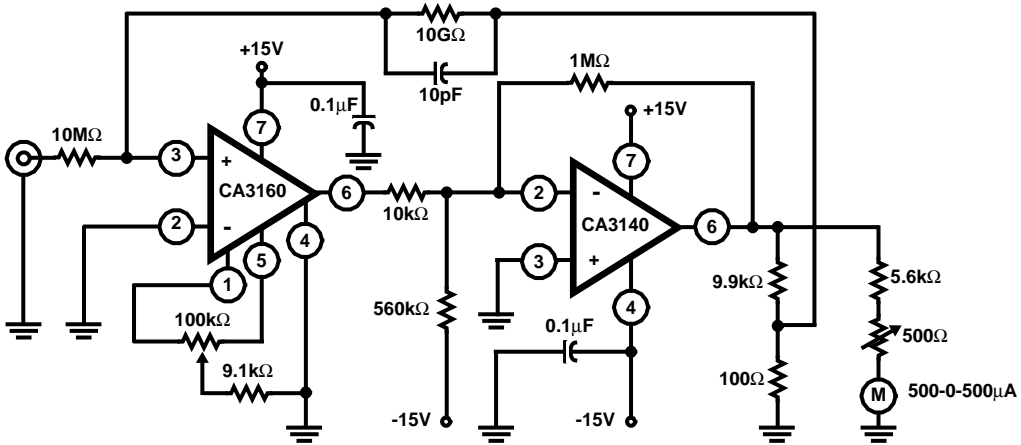

FIGURE 12. CURRENT-TO-VOLTAGE CONVERTER TO PROVIDE A PICOAMMETER WITH  $\pm 3\text{pA}$  FULL SCALE DEFLECTION
Figure 12 shows a single supply sample-and-hold system using a CA3160 to provide a high input impedance and an input voltage range of 0V to 10V. The output from the input buffer integrator network is coupled to a CA3080A. The CA3080A functions as a strobeable current source for the CA3140 output integrator and storage capacitor. The CA3140 was chosen because of its low output impedance and constant gain-bandwidth product. Pulse "droop" during the hold interval can be reduced to zero by adjusting the 100kΩ bias-voltage potentiometer on the positive input of the CA3140. This zero adjustment sets the CA3080A output voltage at its zero current position. In this sample-and-hold circuit it is essential that the amplifier bias current be reduced to zero to minimize output signal current during the hold mode. Even with 320mV at the amplifier bias circuit terminal (5) at least 1100pA of output current will be available.